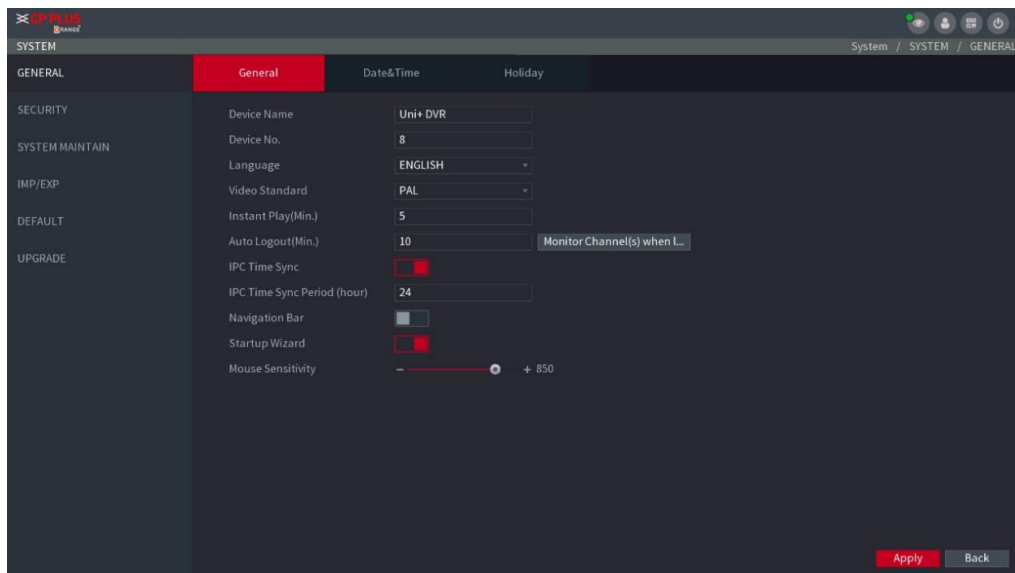

Figure 5-32
- To change the playback time, select **Main Menu → System > GENERAL**, in the **Instant Play** box, enter the time you want to play back. See Figure 5-32.